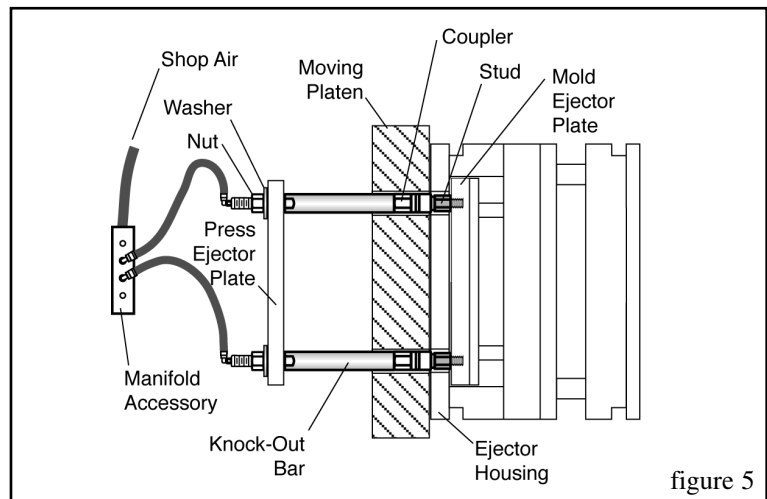

figure 5
4. Install washer, nut and pneumatic connector per figure 5. Use a thread-locking compound to prevent movement during use.
5. Install washer, nut and pneumatic connector per figure 5. Use a thread-locking compound to prevent movement during use.